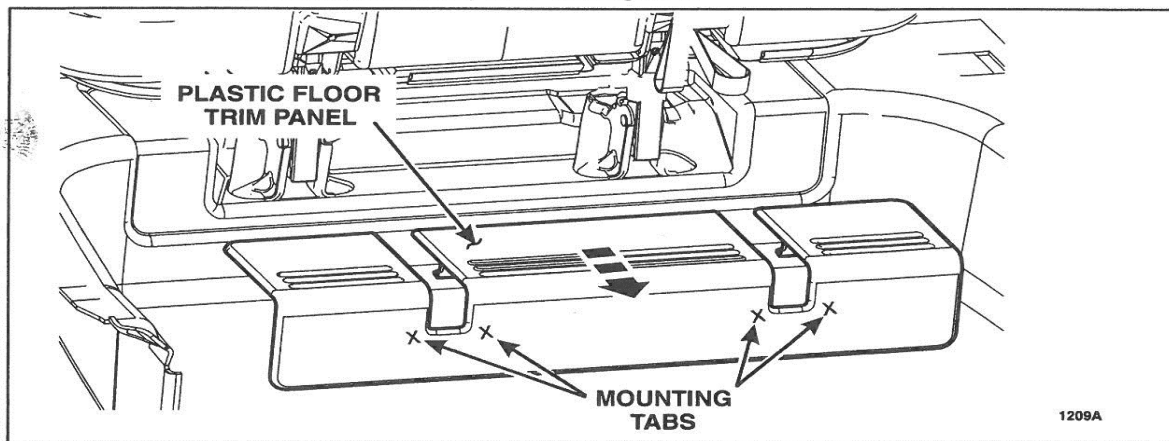

FIGURE 1
5. Remove 3rd row seat plastic floor trim panel. See Figure 1.
- Use care not to damage mounting tabs. See Figure 1.